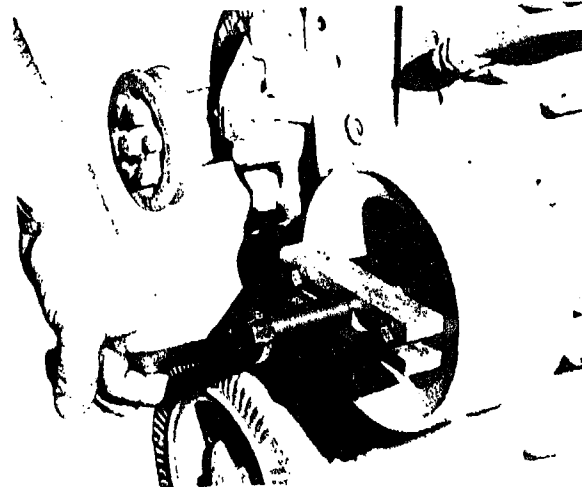

Fig. 0-13. Removing accessory drive pulley
2. Install Puller to drive pulley with two capscrews. Turn center screw clockwise until pulley is loose, Fig. 0-13.